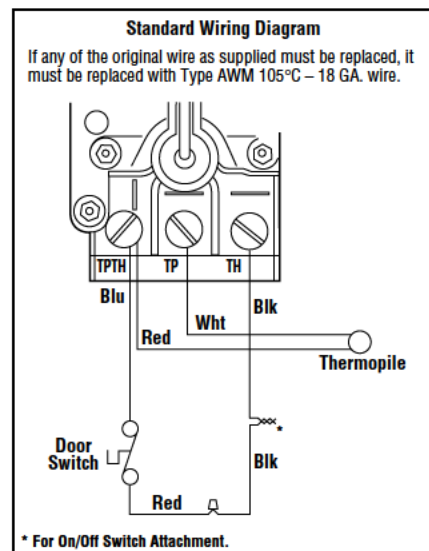

Figure 14
Step 6. Wiring – The wiring diagram is detailed in Figure 14. Refer to Figure 15 to field wire optional wall switch. All electrical wiring must be in accordance with local codes or, in the absence of local codes the latest edition of the National Electrical Code, ANSI/NFPA 70. The heater must be electrically grounded.
Step 7. Installing the Optional Remote Wall Switch – The standard millivolt system comes from the factory wired as shown in Figure 14. Select a convenient location for the remote wall switch and connect the wiring to the appliance (Figure 15).